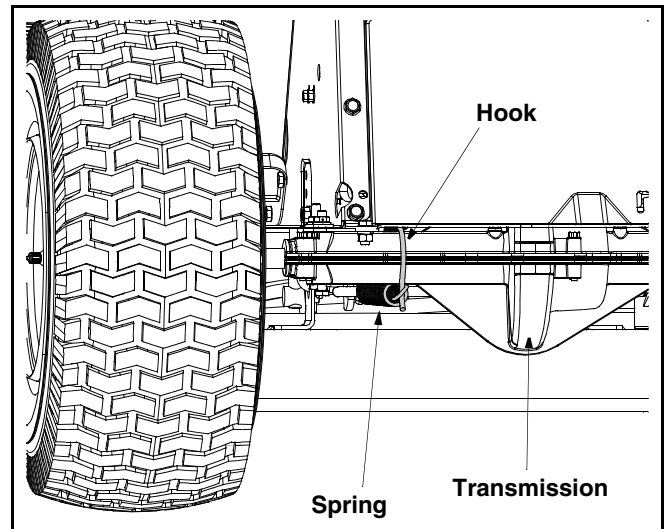

Figure 24
- Using a spring puller (MTD Part No. 732-0571) or other suitable tool, disconnect the spring which is attached to a small hook found on the left, rear portion of the transmission. See Figure 24.
- Using a spring puller (MTD Part No. 732-0571) or other suitable tool, disconnect the spring which is attached to a small hook found on the left, rear portion of the transmission. Refer to Figure 24.